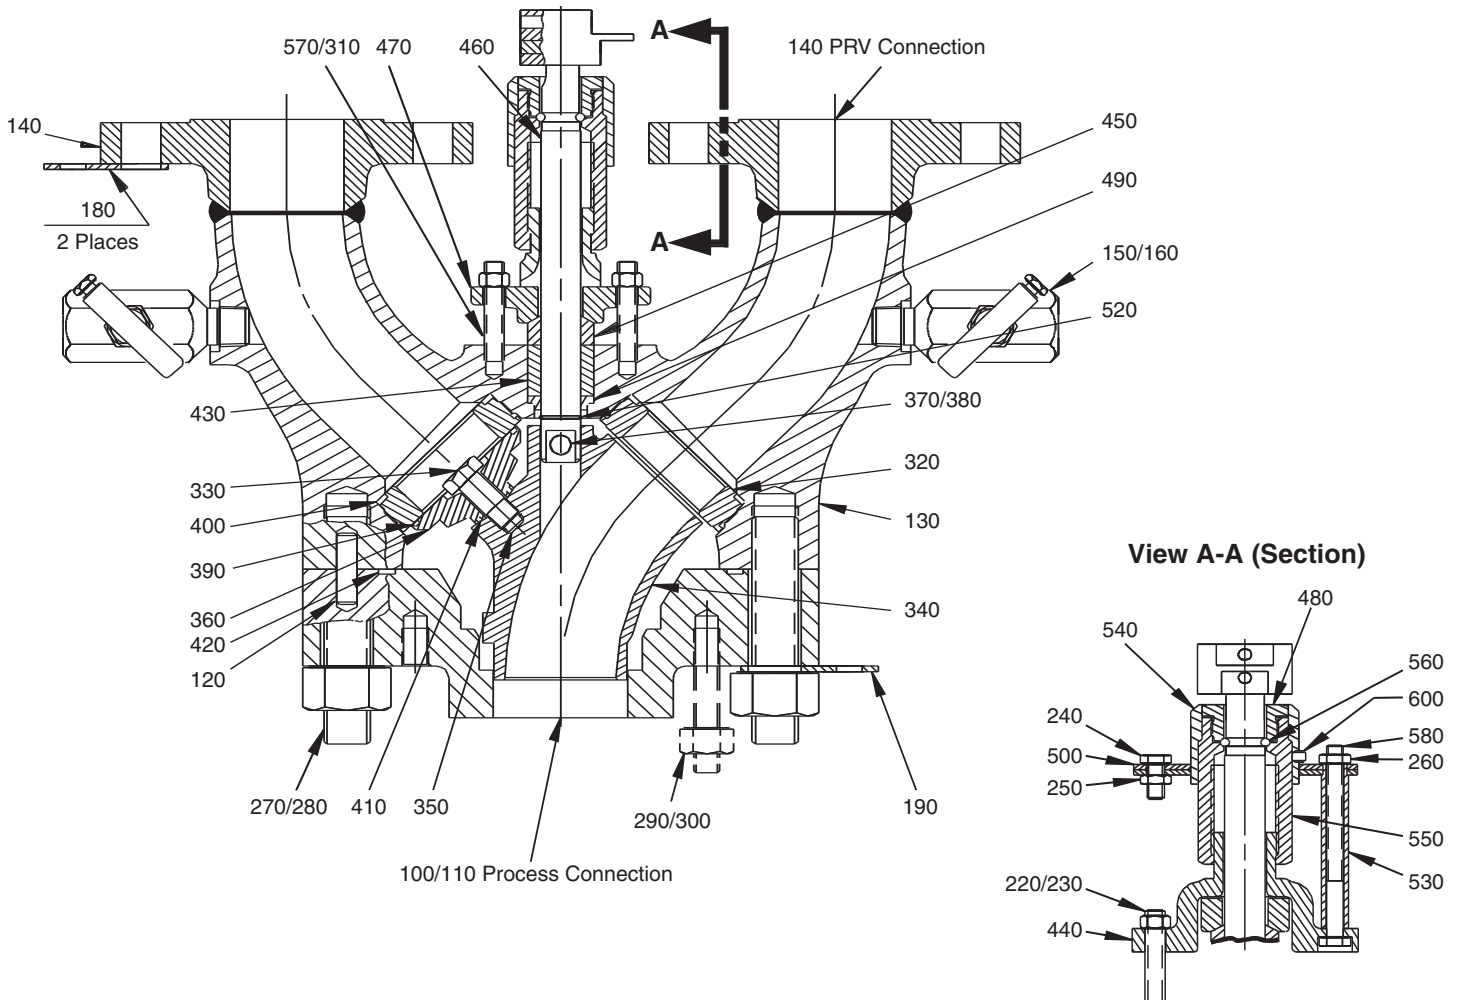

Figure 3 - Safety Selector Valve
3.0 Maintenance of Single Active SSV: 1" 900#-2500# and 1.5"- 8" All Refer to Figures 3 and 4
3.0 Maintenance of Single Active SSV: 1” 900#-2500# and 1.5”-8” all Refer to Figures 3 and 4